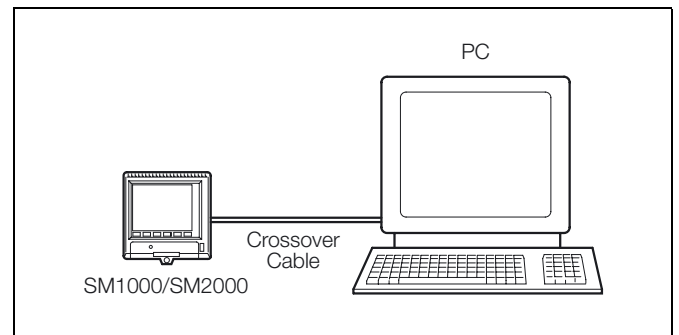

Fig. 2.2 Direct Connection
- Direct connection to a computer – see Fig. 2.2
2.2 Direct Connection to a Computer – Figs. 2.2 and 2.3